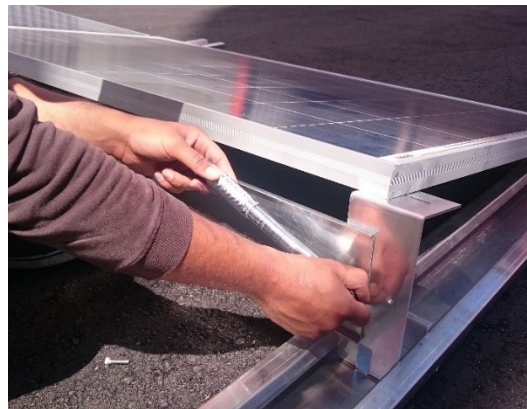

Fig. 27 – Torque shield to the Module Top Support
- 1 Install Side Shields at the end of rows (Figure 27). Left and/or Right-hand shields can be installed depending on your project requirements.